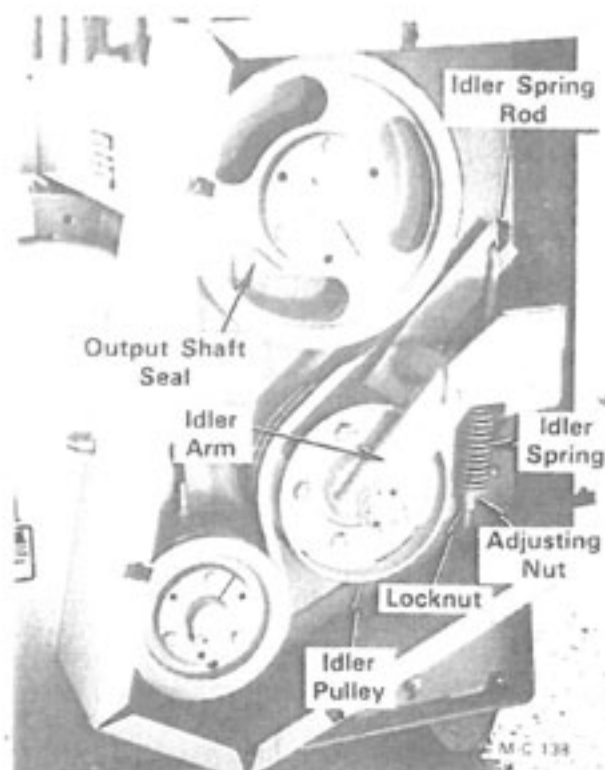

Figure 31
4. Remove the belt guard, output shaft seal and the belt guard back plate, see Figure 31 and 32.
1. Remove the belt guard cover. Loosen the idler spring rod locknut and back off the idler spring adjustment nut to relieve all spring tension. Remove the idler spring rod and spring, see Figure 31.